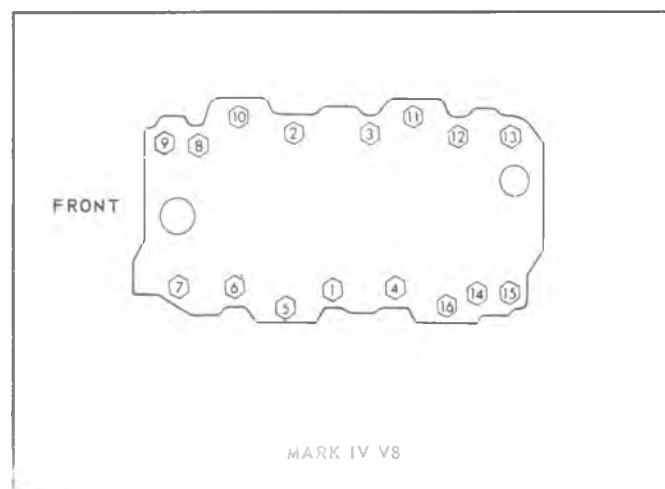

Fig. 6A5-8--Intake Manifold Torque Sequence
- Install manifold and torque bolts to specifications in the sequence outlined in fig. 6A5-8.